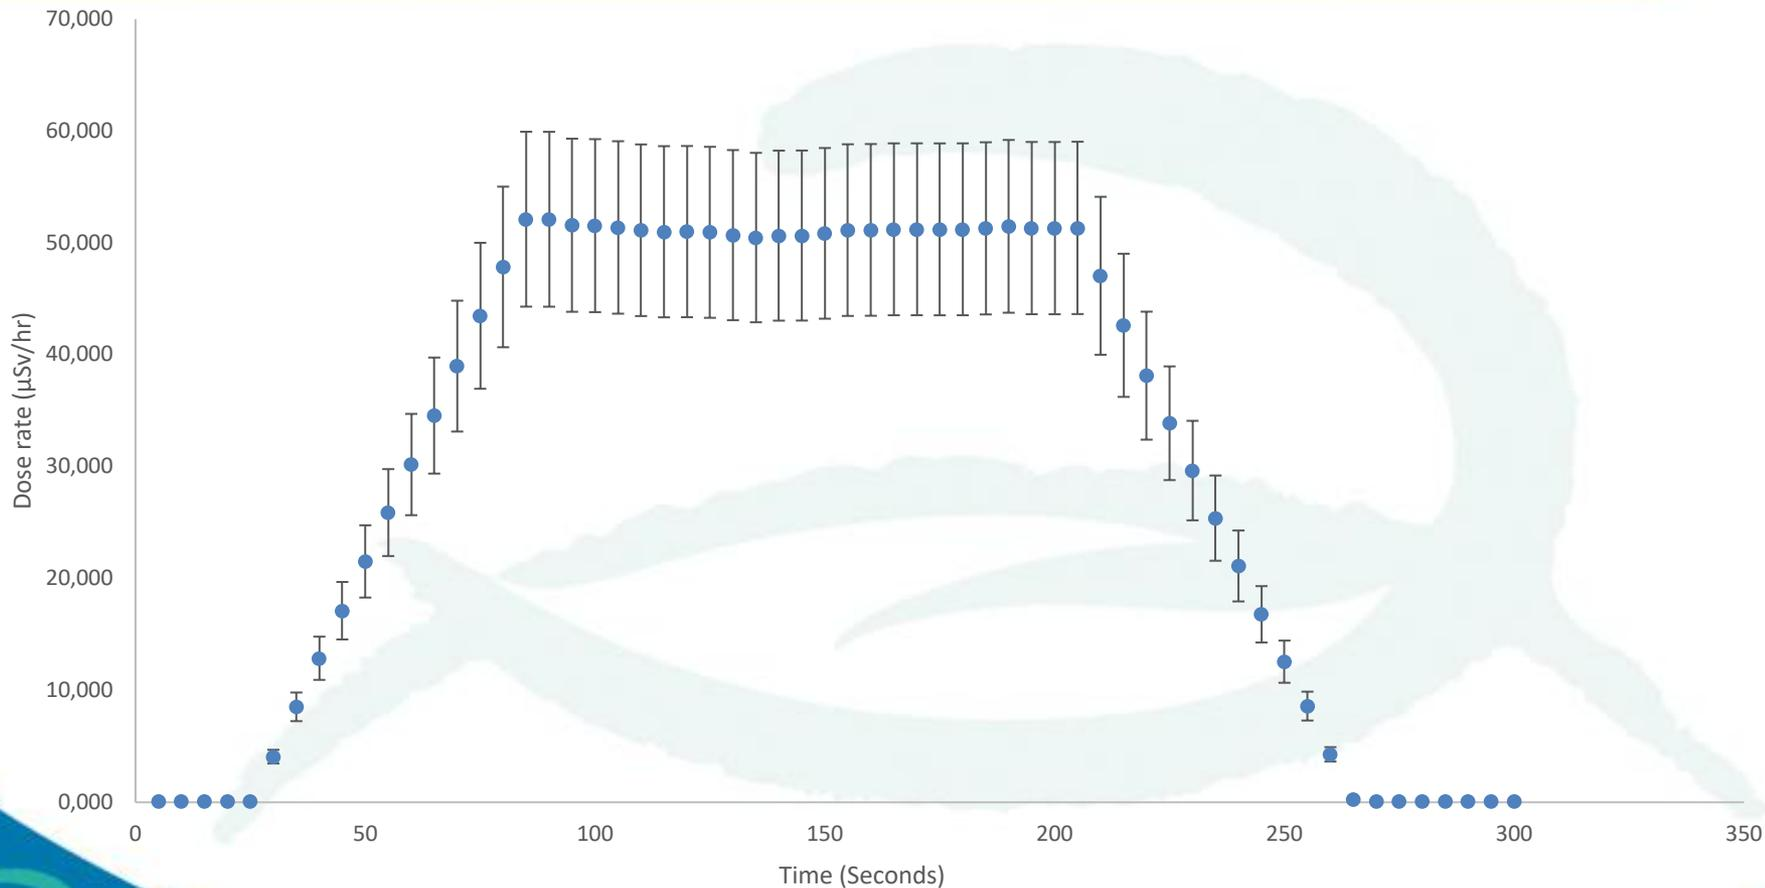

Figure 5: Shows the exposure time of the bGeigie Nano Monitor to the Cs-137 source at a dose rate of 50µSv/hr
- The results of this measurement can be seen in Figure 5.